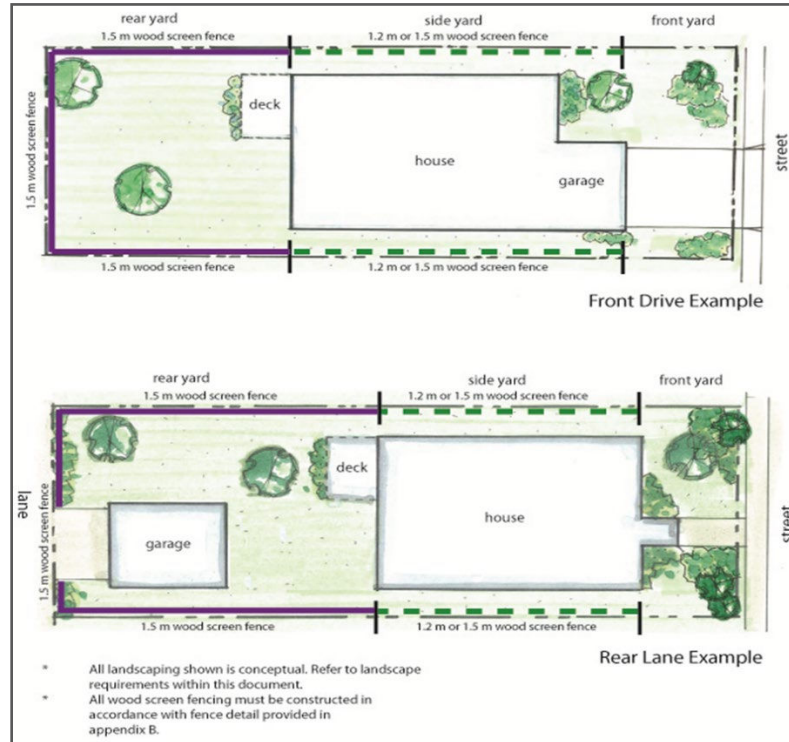

Figure 2: Fencing Plan – Typical Lots
- Fencing for typical lots shall be designed as shown in Figure 2: Fencing Plan – Typical Lots, with 1.5 wood screen fencing along the rear and side yards. Fencing height may be reduced to 1.2m along the length of the house structure.